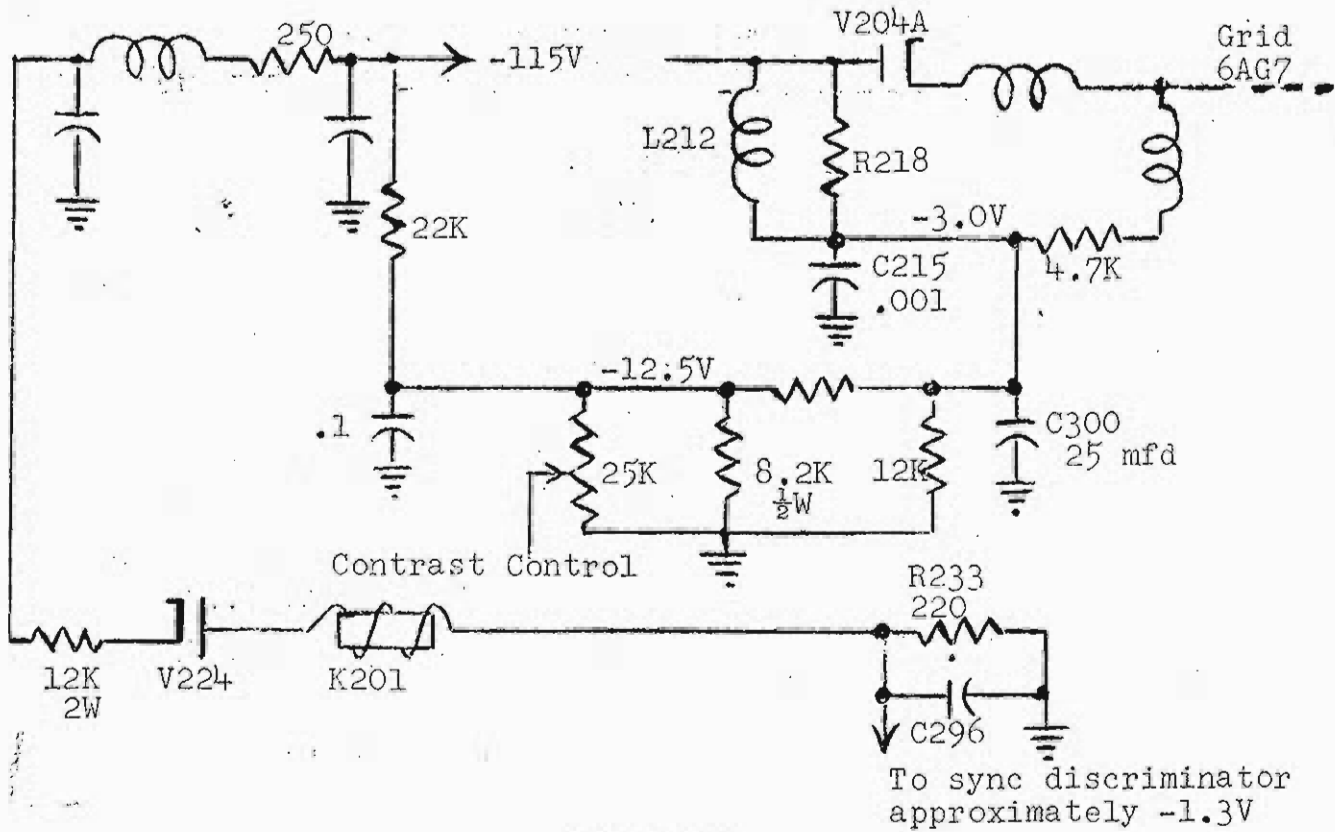

Figure 1
To eliminate this problem, several changes are to be made in the video IF strip and one change in the video amplifier. See Figure 1 for a simplified schematic. Those items affected are indicated by an encircled numeral. The numeral refers to the step to be made in the following procedure.
6. Add a 22K $\frac{1}{2}$ watt 10% resistor across C217 and L216. (This is the 4.5 mc trap). Identify it as R351. (not shown in Fig.1)
Figure 1. Simplified schematic showing changes necessary to reduce regeneration on all channels and improve picture quality. The only items affected are indicated by an encircled numeral. See page 13d for detailed instructions. There are no wiring changes, only additions and deletions of certain components and changes in value of certain other components.